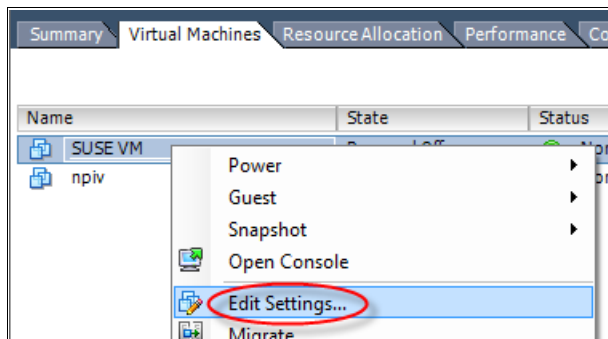

Figure 7-25 Edit Settings of VM
1. Select the VM from the list, right-click, and select **Edit Settings** as in Figure 7-25.